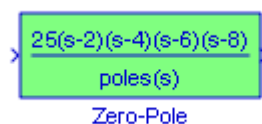

Figure 3.10. The Zero–Pole block specified in vector form
1. If each is specified as an expression or a vector, the icon shows the transfer function with the specified zeros, poles, and gain. If we specify a variable in parentheses, the variable is evaluated. For example, if in the **Function Block Parameters** dialog box we specify **Zeros** as [2 4 6 8], **Poles** as [1 3 5 7 9], and **Gain** as 25, the block looks like as shown in Figure 3.10.*